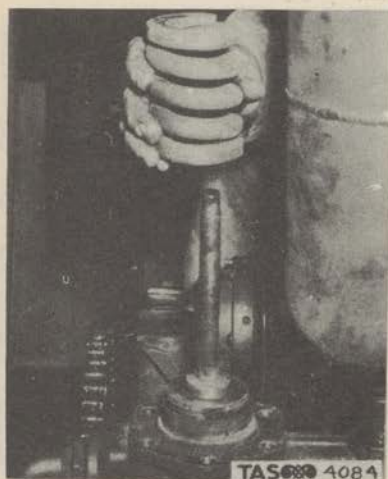

Figure 108. Removing Spring.
(6) Remove the spring. (Fig. 108)